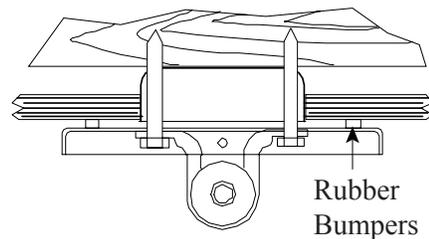

Figure 4
2. Drill two (2) 1/4" diameter holes 2-9/16" apart through the back of the outlet box into the cross brace. There may be two holes at the correct spacing, but they will probably have to be enlarged.
3. Use the two (2) bracket screws to secure the hanger bracket and canopy plate to the joist as shown in Figure 4. Install the rubber bumpers into the canopy plate and the rubber bushing in the hanger bracket before assembling the parts to the ceiling joist.